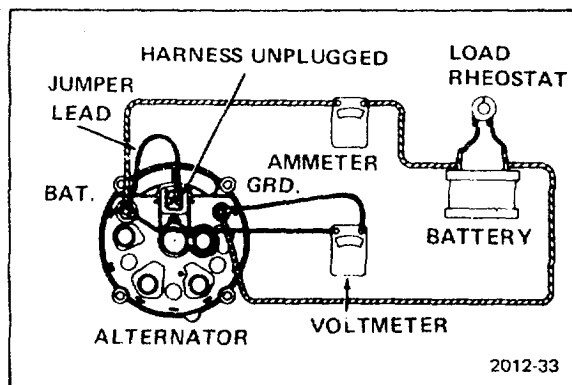

Figure 5-12. Alternator Test Setup
(1) Connect assembled alternator as shown in figure 5-12. Make sure negative terminal is connected to ground. Adjust load rheostat to obtain specified output of 14 volts. Check amperage at 2000 alternator rpm or 1000 engine rpm (cold); it should be 21 amperes. Check amperage at 5000 alternator rpm or 2500 engine rpm (cold); it should be 30 amperes. Operate alternator until it is at operating temperature. Check output amperage; it should be 32 amperes.
(2) If output is not as specified, replace alternator.